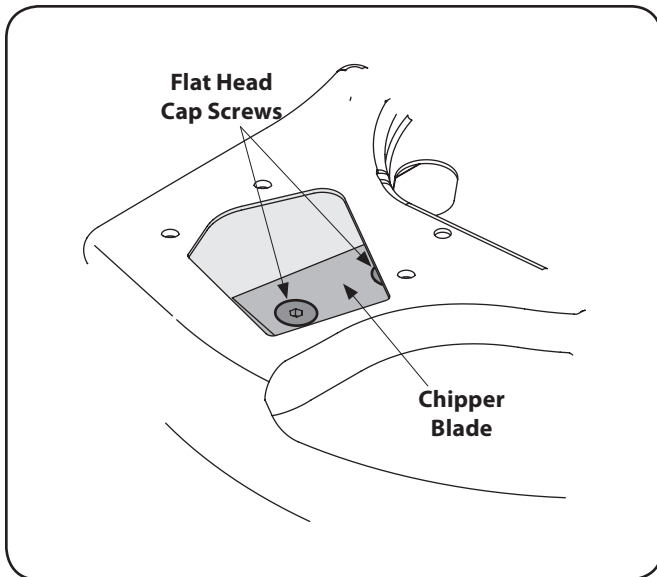

Figure 7-5
9. Using a 3/16" allen wrench, remove the flat head cap screws that hold the chipper blade to the impeller. These screws are accessible through the opening created when the chipper chute was removed earlier. See Fig. 7-5.